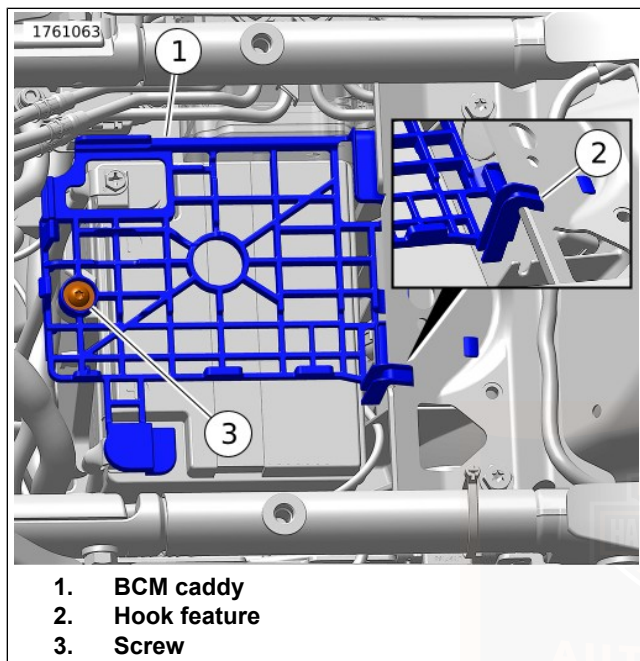

Figure 109. Removing/Installing BCM Caddy
9. See Figure 109. Remove screw (3) and BCM caddy (1).
7. See Figure 109. Install BCM caddy (1). Make sure hook feature (2) hooks on top of frame tab.
8. Install screw (3). Tighten.